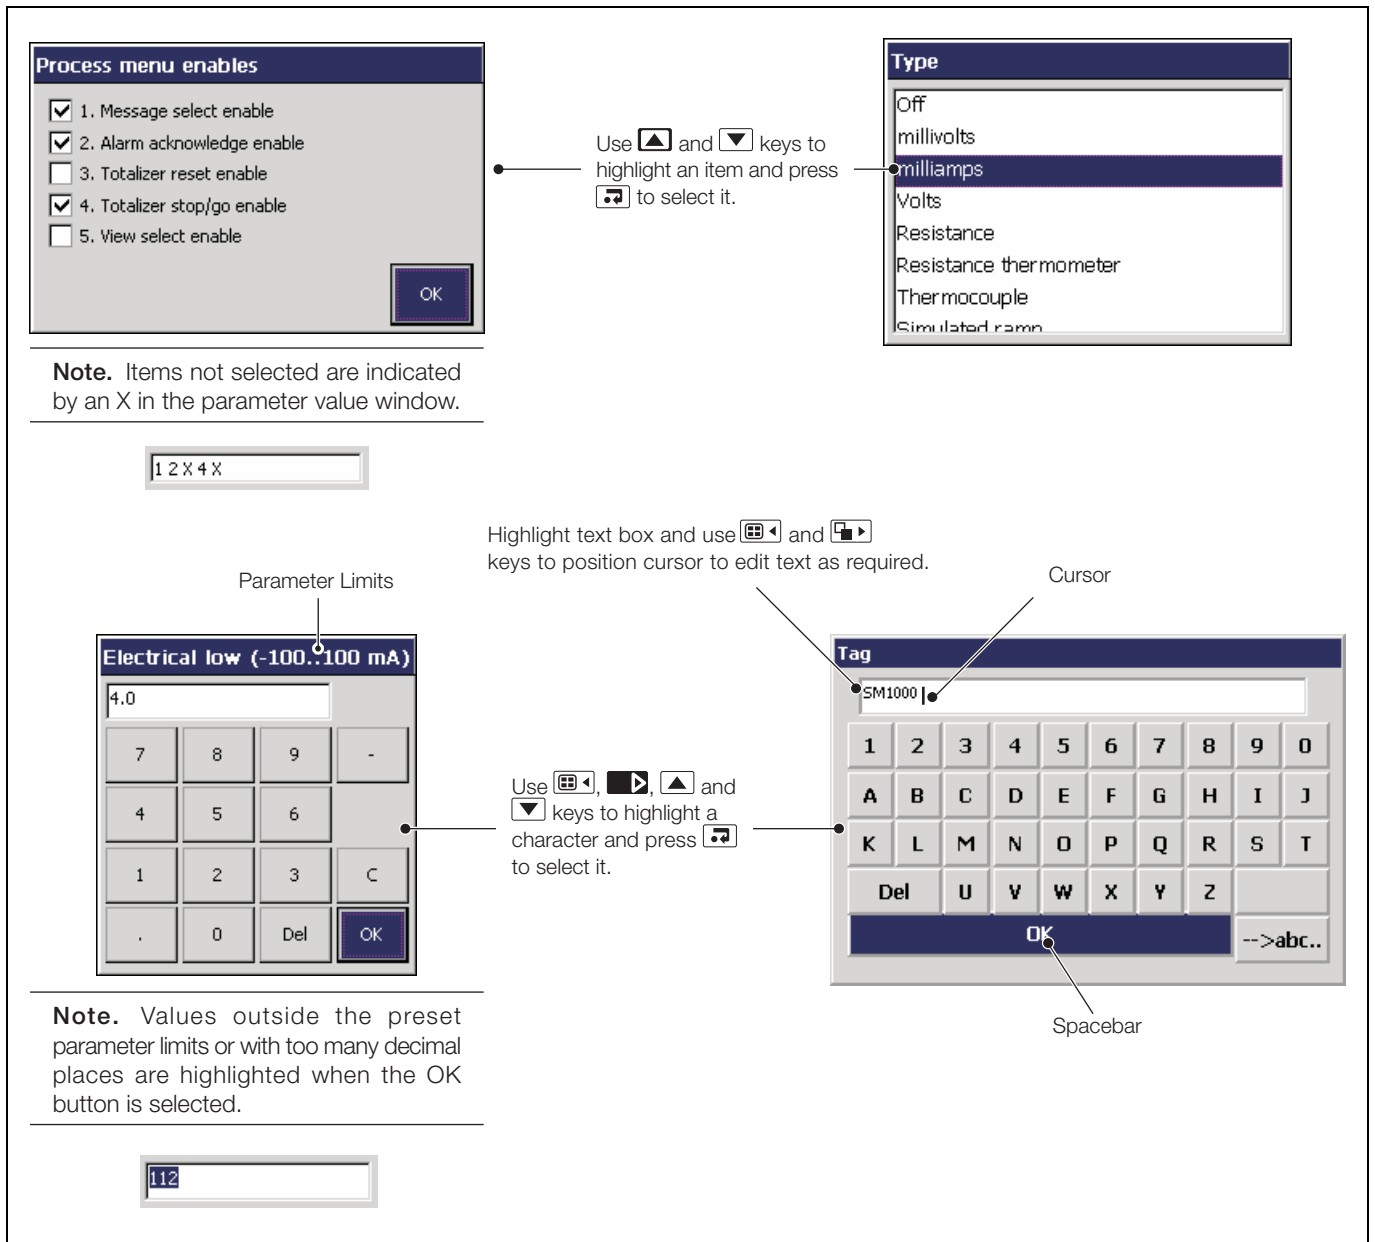

Fig. 6.5 Data Entry Dialog Boxes
- The appropriate data entry box is displayed automatically – see Fig. 6.5